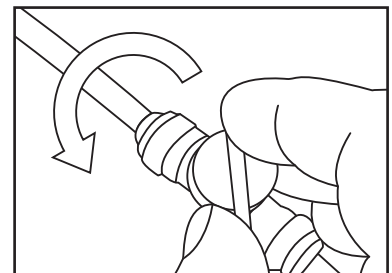

Fig 2
12. Open the shut off valve making sure there are no leaks along the supply line (see Fig 2).